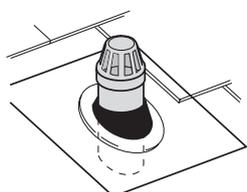

Fig. 19b Steps 2/3
Step 2 – Slide **149 Weathering Slate** over stack (Fig. 19b)